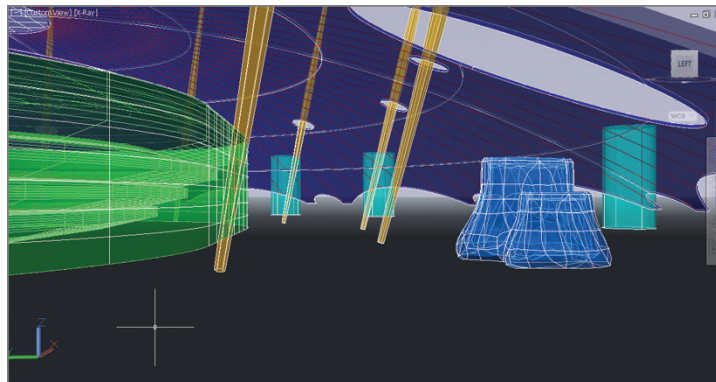

FIGURE 16.18 Looking through the camera
8. Right-click in the drawing window, and choose Set Camera View. Drag the mouse wheel downward to move the camera and its target upward, as shown in Figure 16.18.